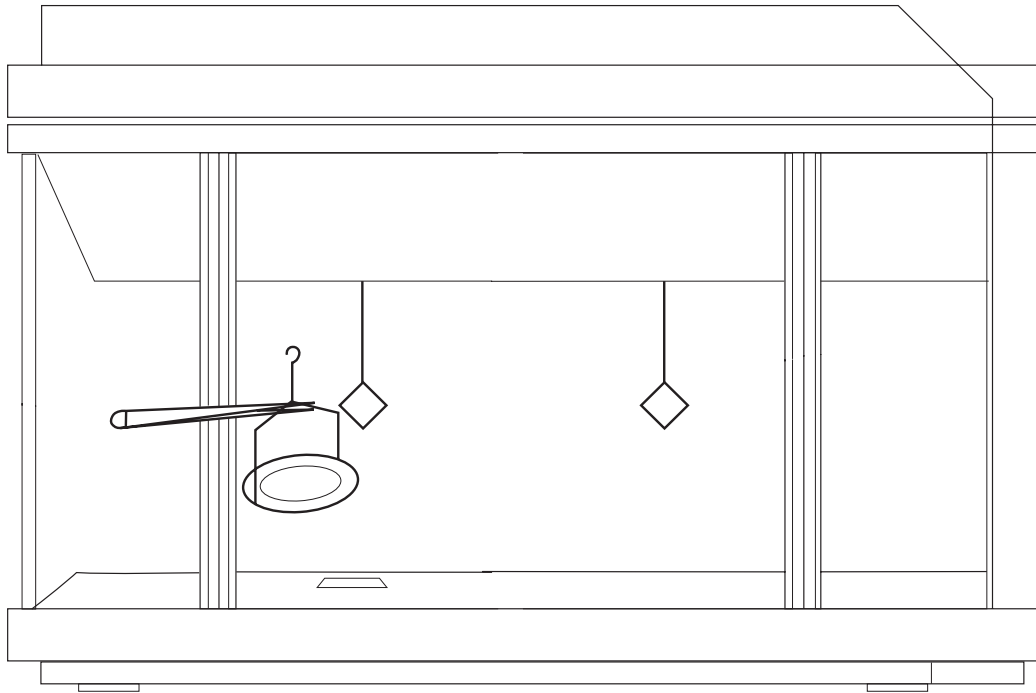

Figure 5: Handling the Stirrups
The following brief description of the Cahn C-34 and C-35 controls will help you to understand the operation of the balance and will make weighing easier and faster. Figure 5 illustrates the front panel of the control unit.
- Do not grasp the stirrups with the forceps. Lift them from below the yoke, as shown in the Figure 5 below. It is easy to exert excessive force on the hangdowns and beams if the stirrups are held too tightly.